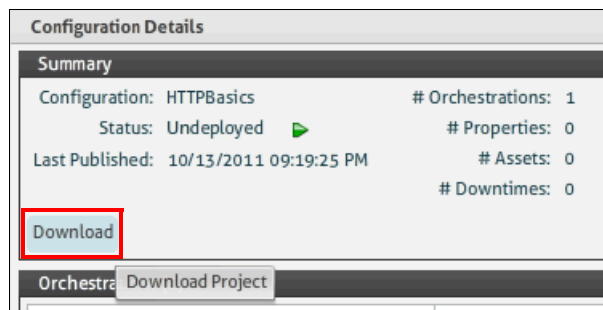

Figure 6-8 Download configuration project
3. In the Configuration Details pane, click **Download**, as shown in Figure 6-8.